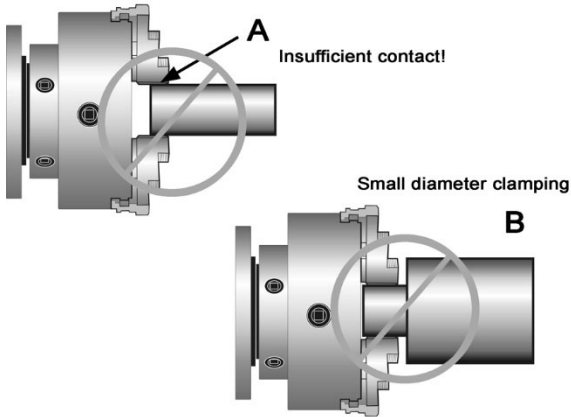

Figure 10-3
- Avoid short clamping contact (A, Figure 10-3) or clamping on a minor part diameter (B, Figure 10-3). Face-locate the workpiece for added support.